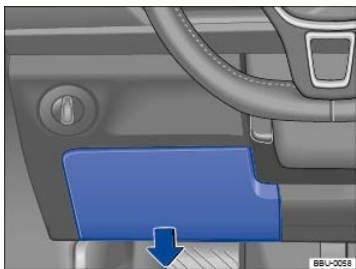

Fig. 147 On the driver side in the instrument panel: Fuse box cover.
- Pull the lower part of the cover straight out (in the direction of the arrow ⇒ Fig. 147) and remove the cover from the bottom. This action may require moderate force.
- To *install*, fit the cover on the hinges at the top of the opening. Guide the cover into the instrument panel by pushing in the direction opposite of the arrow ⇒ Fig. 147 until you can hear it latch into place.